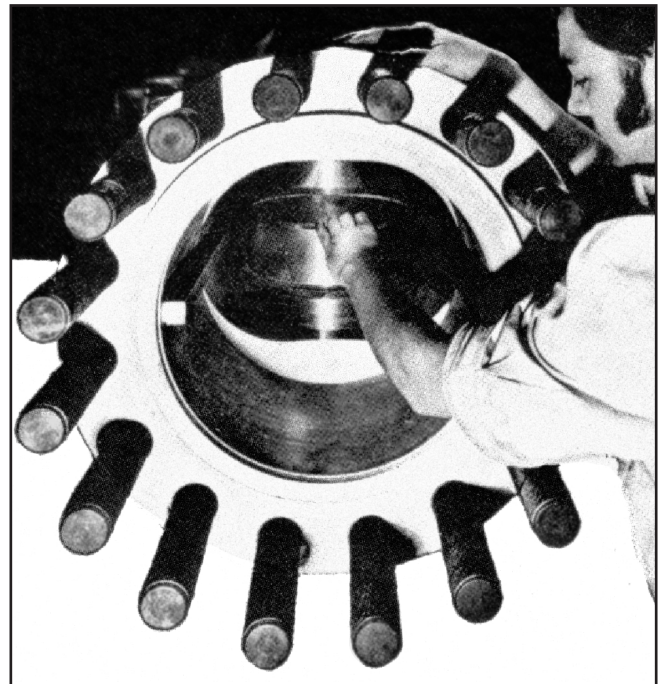

Figure 5.2D Lapping plate
2. In those cases where the automatic grinding and lapping machine is not employed, seat faces must be repaired using a lapping plate. The plate should be made of cast iron if possible and should be large enough to cover the face of the seat (*Fig. 5.2D*). Apply lapping compound mixed with olive oil and distribute